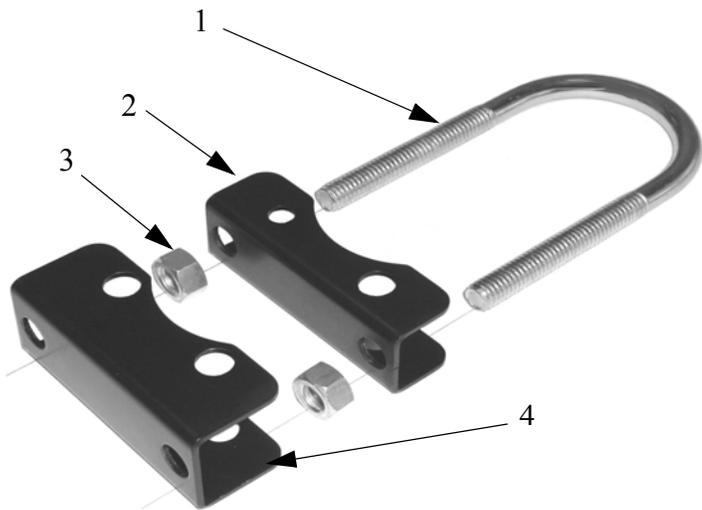

Figure 7
- b. Unpack and disassemble the Chief Security Anchor (see Table 1 and Figure7).